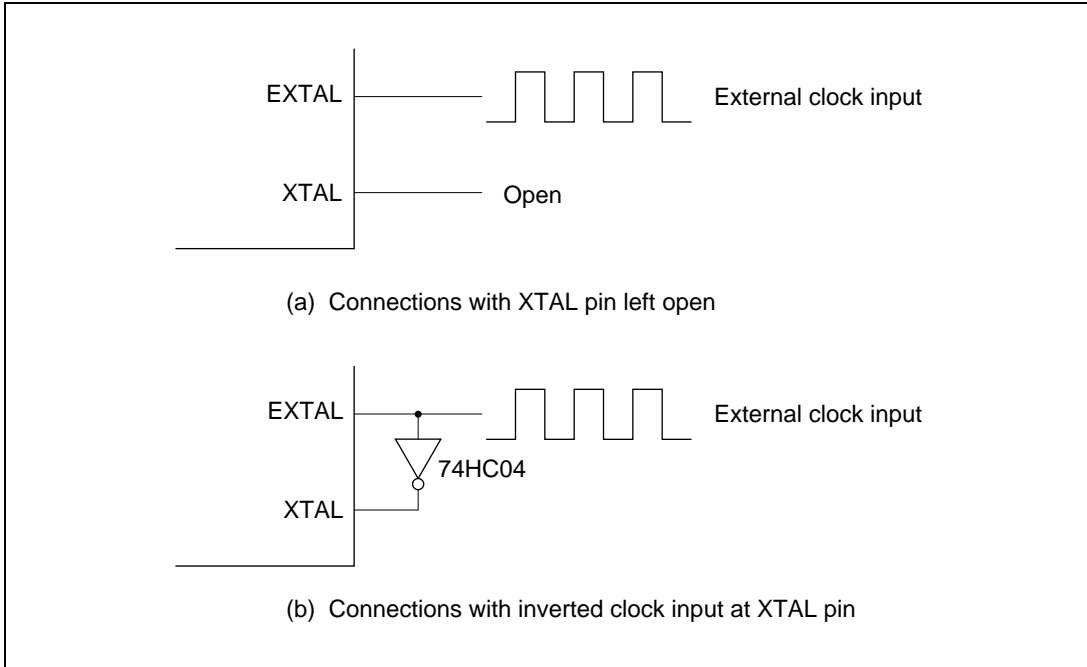

**Figure 6-4** Notes on Board Design around External Crystal
**Note on Board Design:** When an external crystal is connected, other signal lines should be kept away from the crystal circuit to prevent induction from interfering with correct oscillation. See figure 6-4. The crystal and its load capacitors should be placed as close as possible to the XTAL and EXTAL pins.